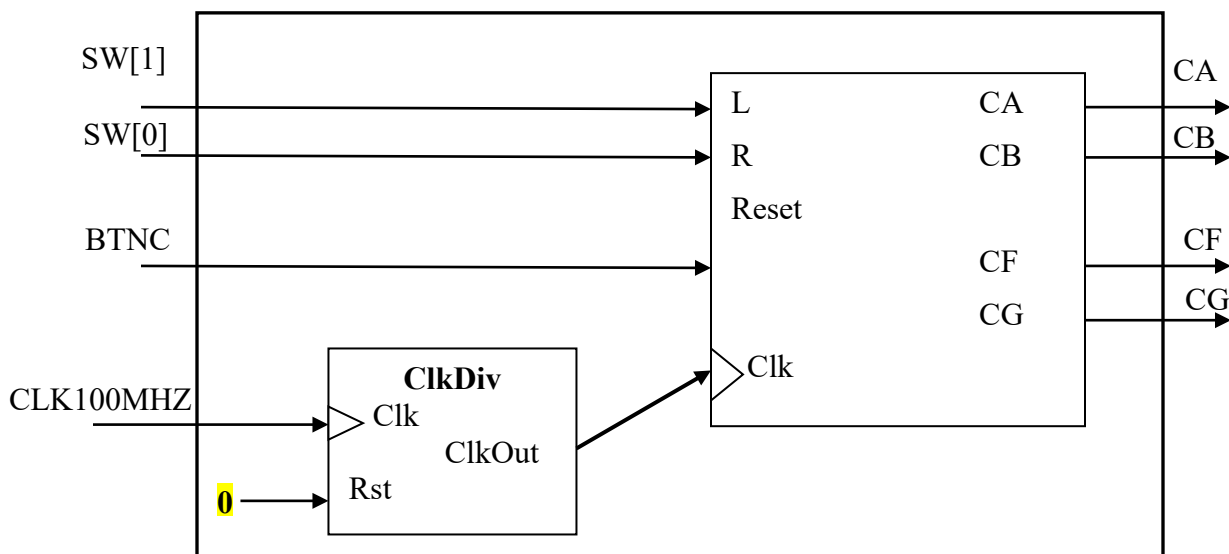

Figure 3: top-level design
To make the light-sequence generator work on the Nexys 4 DDR board, we have to use more components as shown in Figure 3, the top-level design, below. This **top-level design (.v file)** has
4) In Top_Design.v file, write **Structural Verilog** code to connect the modules together as shown in **Figure 3 (page 4)**